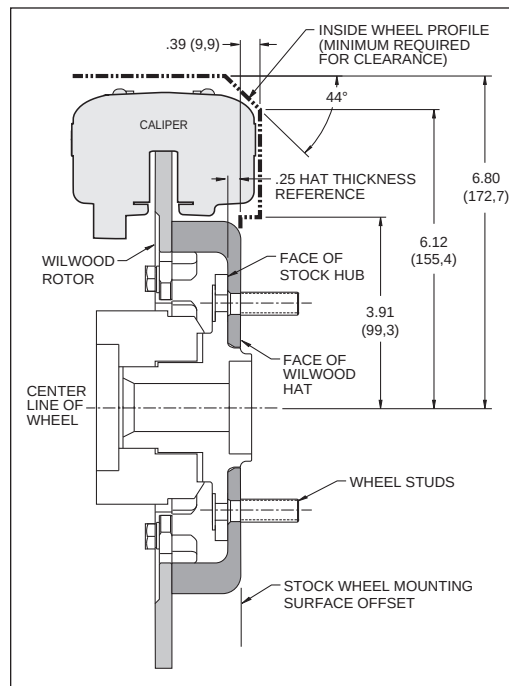

Figure 2. Wheel Clearance Diagram
- Review the wheel clearance diagram (figure 2) to verify that there is adequate clearance with the wheels you will be using with the installation.
- Before any tear-down or disassembly begins, modifications are required to the stock spindle. This includes removing some material from the stock spindle caliper mounting area that will interfere with the assembly of the Wilwood disc brake kit. It is recommended that these modifications be performed by a qualified machine shop. Please refer to the modification procedure and Figure 2 below.
- Verify your wheel clearance using Figure 2.